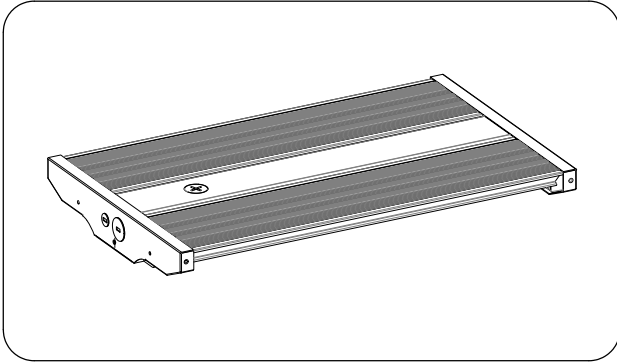
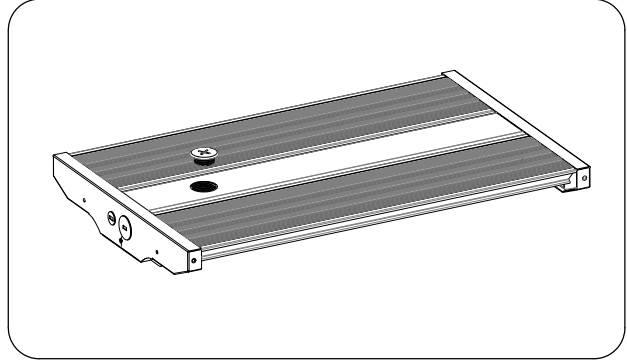

Figure 1
Figure 2
Step 1: Remove the receptacle cover. (Figure 1 and Figure 2)